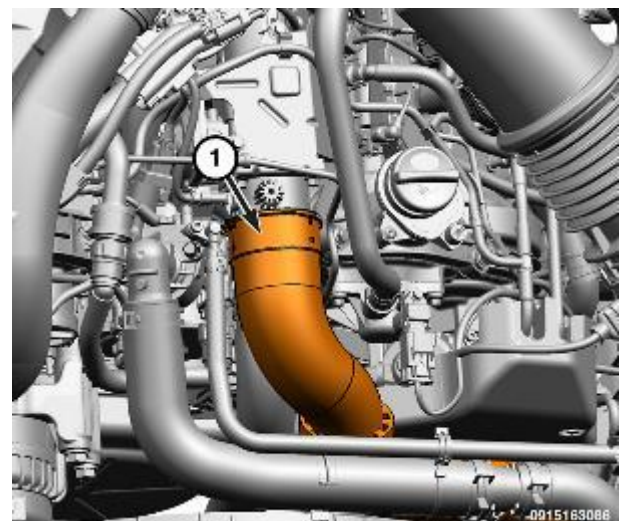

Figure 185 – CAC Hose
25. Release the retaining clip (1) and disconnect the CAC hose from the EGR air flow control valve (Figure 185).
48. Install the fuel tube bolt (2) securing the fuel tube and tighten securely (186).
49. Connect the CAC hose to the EGR air flow control valve and secure the retaining clip (1) (Figure 185).